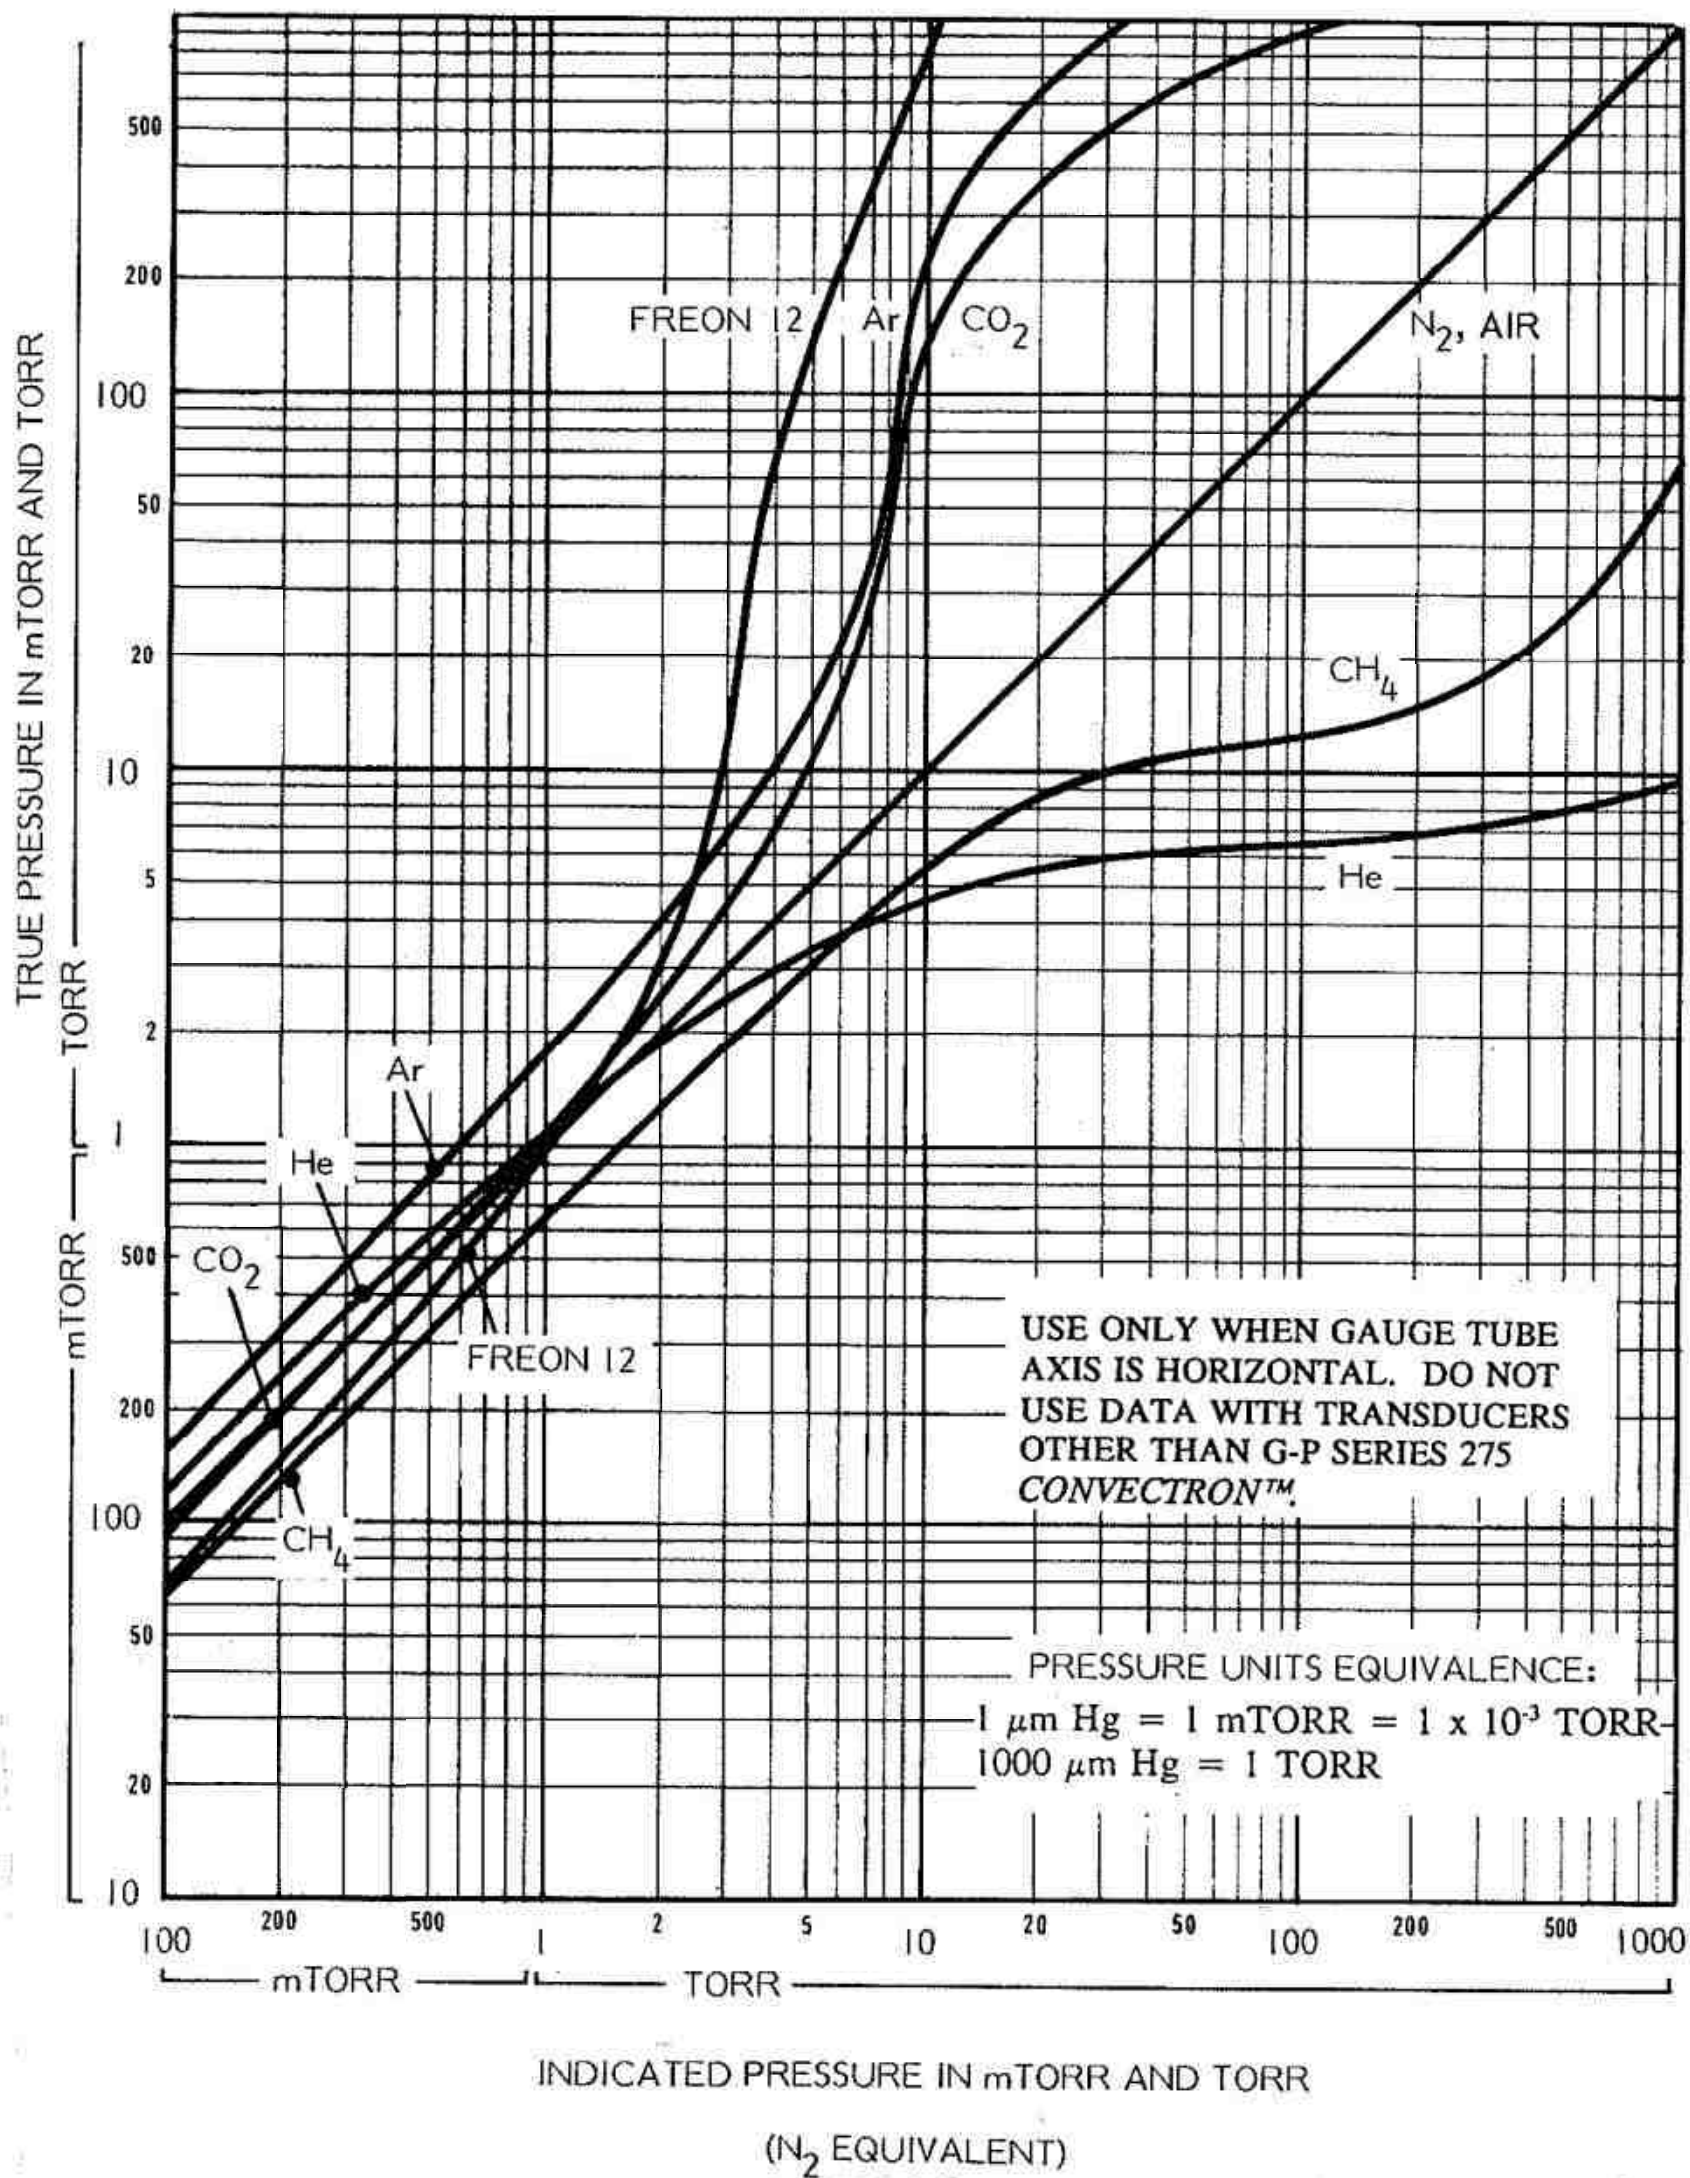

Figure 3-6. Conversion Chart 0.1 to 1000 Torr
- a. Assume that a true pressure of 20 Torr of CO2 is the desired process control set point. On Figure 3-6, locate 20 Torr on the true pressure scale. Read horizontally to the right to the intersection of the 20 Torr line and the CO2 curve. Reading the horizontal axis, this point is 6.5 Torr, indicated pressure (N2 equivalent). Thus the correct process control setting for 20 Torr of CO2 is 6.5 Torr, N2 equivalent.
- b. Assume that it is desired to obtain a He pressure of 100 Torr in the system. On Figure 3-6, locate 100 Torr on the true pressure scale. Read horizontally to the right to intersect the He curve. Because the intersection of the 100 Torr line and the He curve is off scale, it is apparent that a true pressure of 100 Torr of He exceeds the capability of the system and cannot be measured.